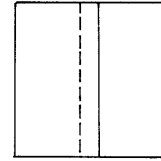

Figure 2.10
2. Position the metal so that the joint to be welded is in the vertical position. (See Figure 2.10.)